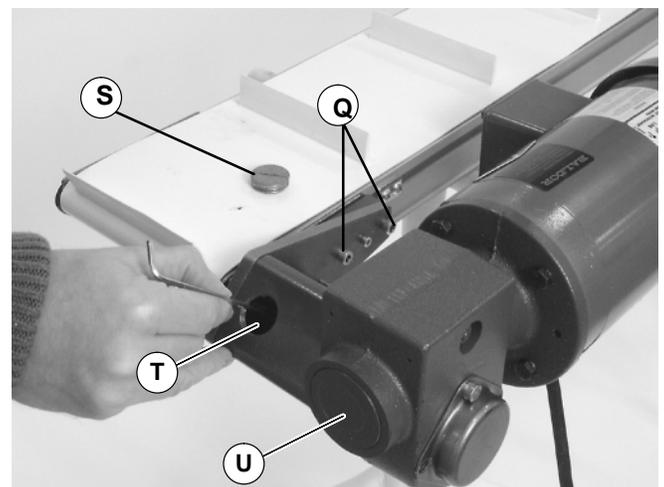

Figure 17
- a. With a flat blade screwdriver, remove cap (S of Figure 17).
- b. Loosen (2) set screws on the coupling (T).
- c. Remove (2) motor mounting screws (Q of Figure 17). Remove mounting bracket with gearmotor (U).